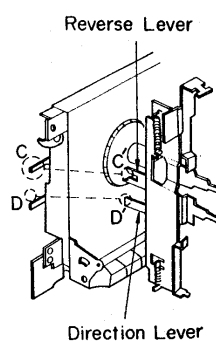

Fig. 19
- (*4) During installation, simultaneously fit in C and C', D and D'. (Fig. 19)